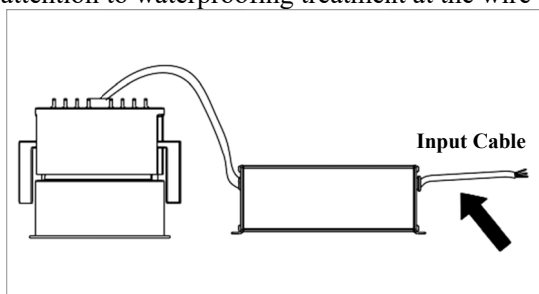

Fig.2
2. Lamp wiring: Connect the wires according to the voltage requirements labeled on the power cord input label; If there is a dimming version, please pay attention to dimming the +/- poles and do not connect them incorrectly. Pay attention to waterproofing treatment at the wire connections (see Figure 2).